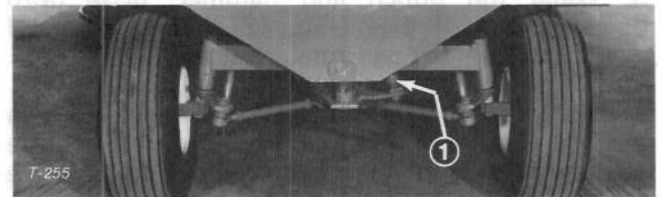

Figure 39
1. Remove cotter pin and slotted nut from tie rod end that connects steering tube to steering plate (Fig. 39). Separate tie rod end from plate.
12. Slide tie rod end at end of steering tube through steering plate, and secure parts together with slotted nut (Fig. 39). Tighten nut until it is tight and holes in nut and tie rod end line up. Then install cotter pin through nut and tie rod end.